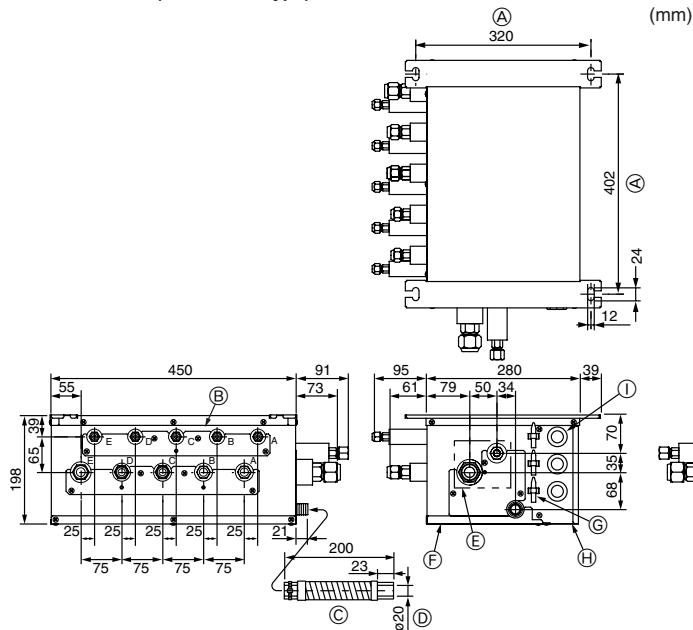

Fig. 4-2
#### ■ PAC-AK50BC (Fig. 4-2)
- (1) Install the suspension bolts (procure locally) at the specified pitch (Fig. 4-2, 4-3).